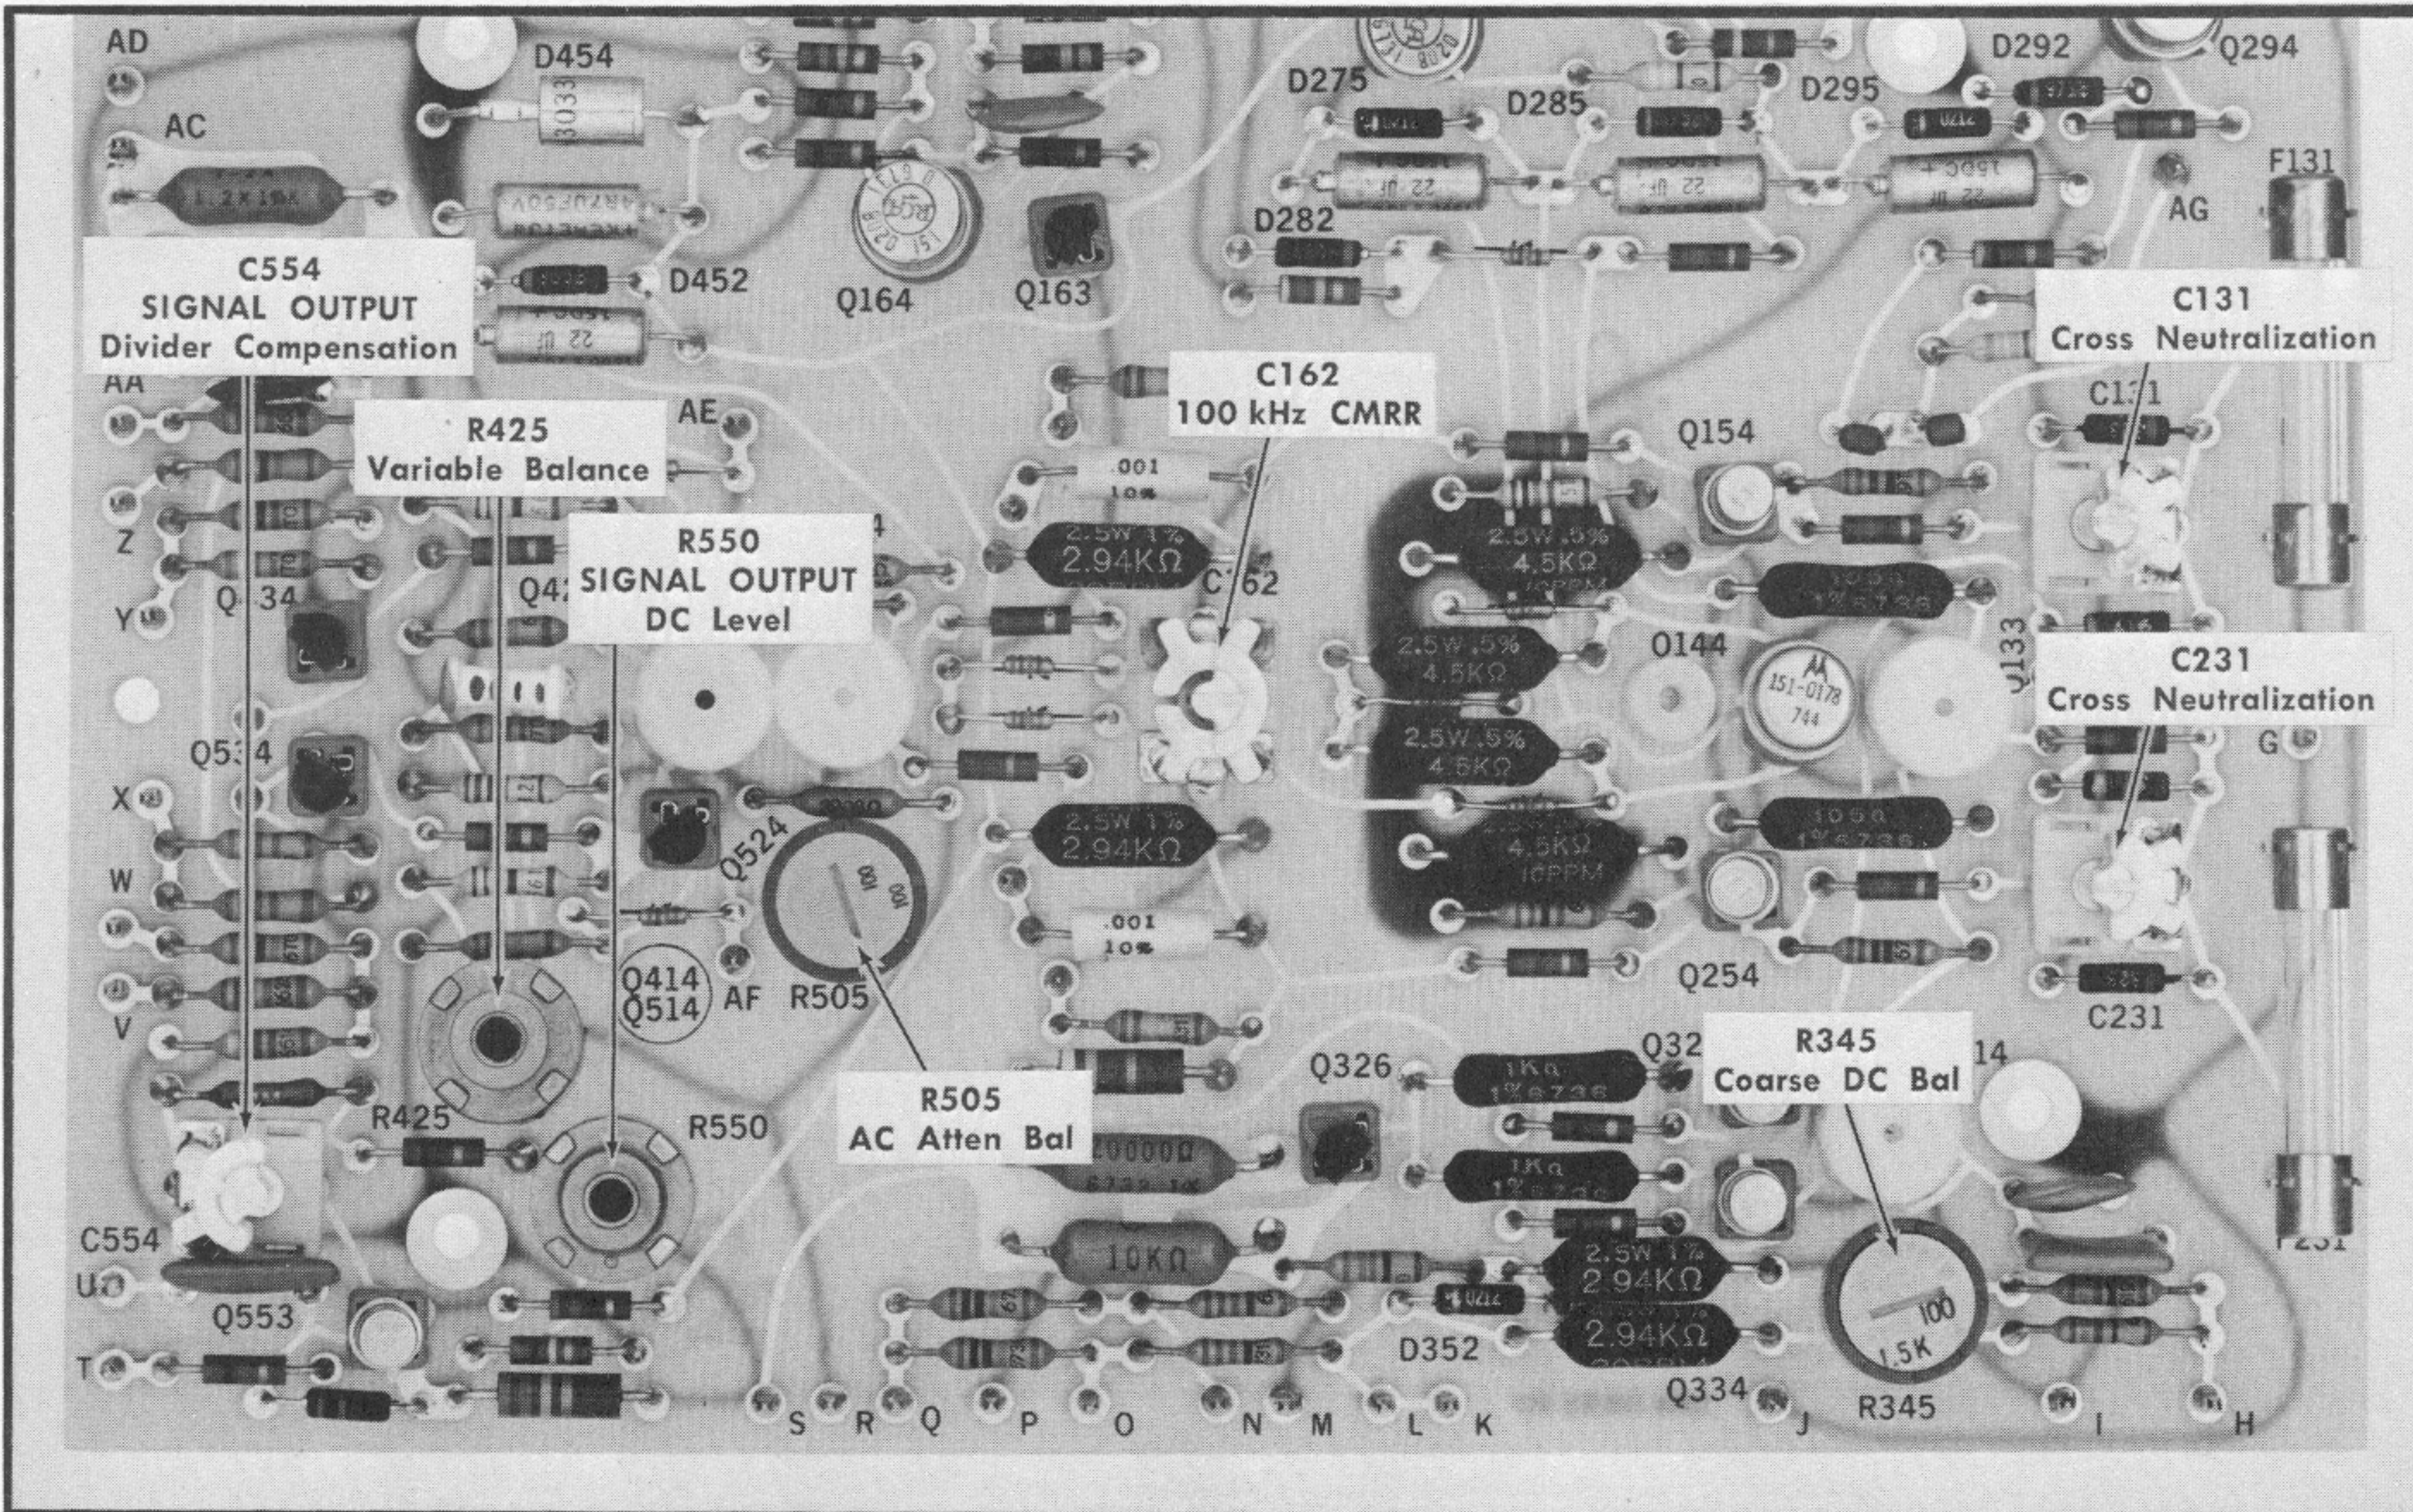

Fig. 5-4. Adjustments located on the Amplifier board.
- e. ADJUST—AC Atten Bal control, R505 (see Fig. 5-4) so the trace is positioned within 1.5 cm of graticule center.
2. Check or Adjust Variable Bal ①
- e. ADJUST—Variable Bal control, R425 (see Fig. 5-4) for no trace shift while rotating the VARIABLE control.
3. Check or Adjust Coarse DC Bal ①
- d. ADJUST—Coarse DC Bal, R345 (see Fig. 5-4) to position the trace to graticule center.